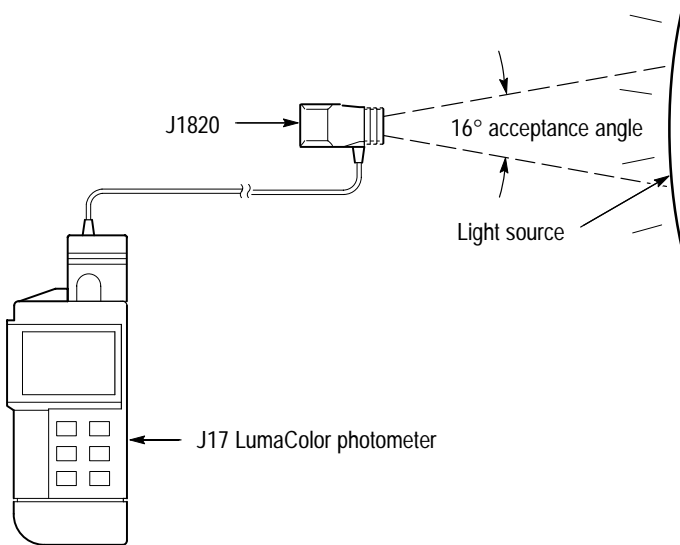

Figure 1–28: J1820 setup for light source measurements
3. Point the J1820 toward the light source, choosing a distance to ensure that the entire field of view is filled by the light source. See Figure 1–28. (The acceptance angle of the J1820 is 16° . See *Operating Characteristics*, on page 1–62.)